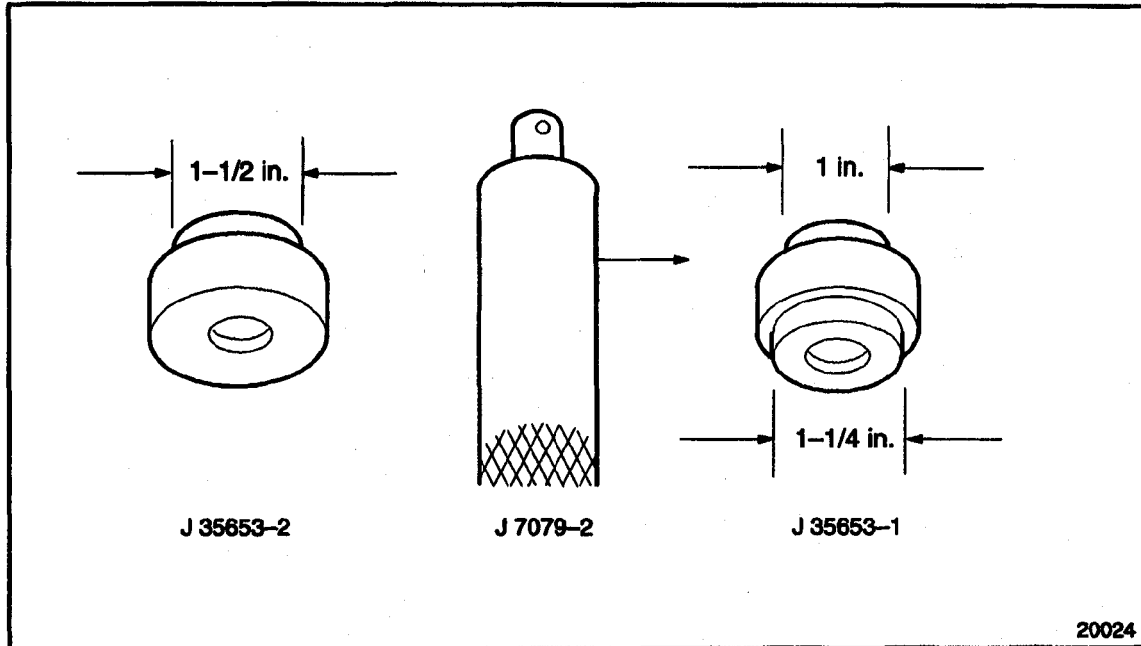

Figure 1-19 Cup Plug Installation Tool Set
6. Install all of the required cup plugs. Use a good grade of non-hardening sealant such as Loctite® 620 (or equivalent). Apply a thin coat of sealant just inside the chamfer where the plug is to be installed and install using cup plug installation tool set, J 35653. See Figure 1-19.